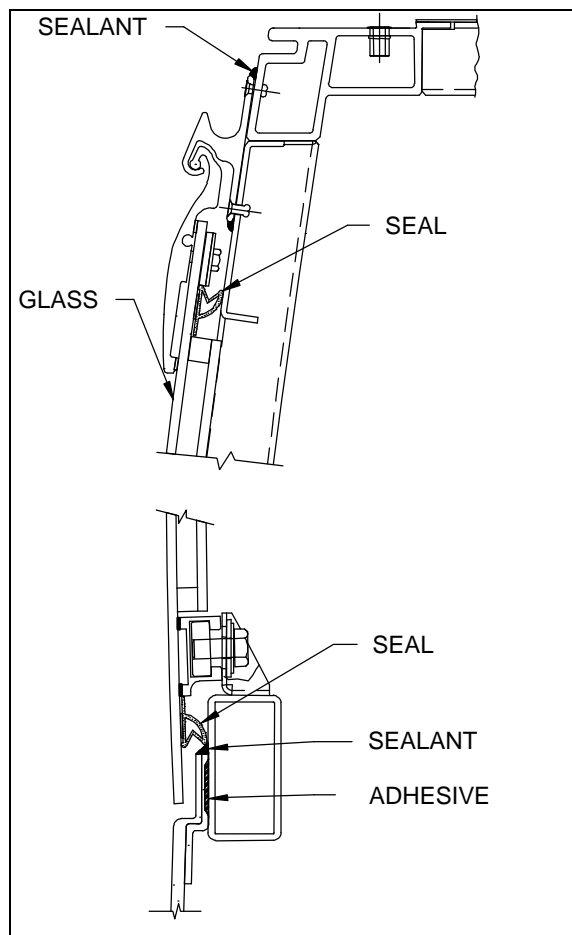

FIGURE 50 : WINDOWS ABOVE SIDE PANELS
Refer to procedures described in Prevest maintenance manual. Refer to figure 50 for tape, sealant and adhesive position.
2. Apply appropriate double face self adhesive tape on the slide-out structure (figure 50).